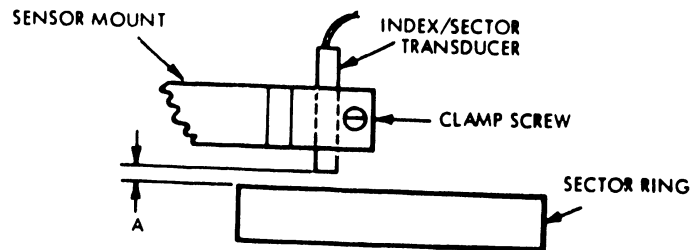

FIGURE 4-61 INDEX ALIGNMENT TOOL INSTALLATION
5. Install the Index Alignment Tool (PN 726-9663) in accordance with Figure 4-61.